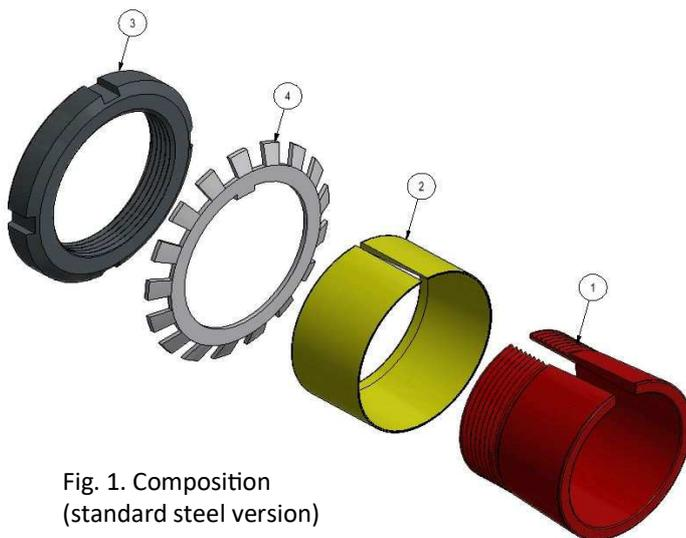

Fig. 1. Composition
- Locking Assemblies MAV 3505 and MAV 3705 are supplied ready for installation and are composed of (fig. 1 and 2):